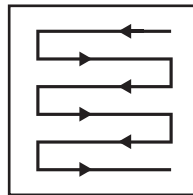

Fig. 20
5. Mow in slight overlapping rows. The most effective pattern for mowing lawns is straight lines along one of the sides. This will keep the rows even and ensures that all the lawn is cut without missing any spots (Fig. 20).
8. Empty the grass catcher (25) regularly.